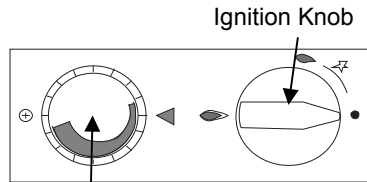
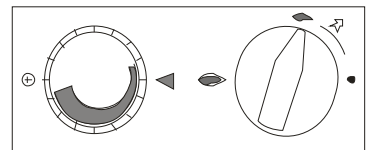

Figure 6-Off Position
Figure 7- Pilot Burner Only
1. Whilst pushing the IGNITION KNOB in (see **Figure 6**), turn it anticlockwise to the pilot flame position as shown in **Figure 7**. During this process, the spark ignition will have operated and lit the pilot flame. On lighting the pilot flame continue to depress the ignition knob for a further 15 - 20 seconds then slowly release. The pilot flame should stay alight. If the flame goes out, repeat the procedure above to establish the pilot. Due to safety and the efficient way the fire works, it is not unusual for the pilot to stay alight only after the second or even third attempt.
6. To switch off the main burner turn the IGNITION KNOB to the 'Pilot burner only Position' as shown in **Figure 7**. The appliance may be left in this standby mode if desired.